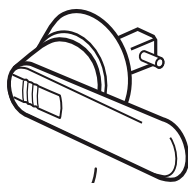

Fig. 1
1. Supply power to the unit by turning the master switch to the ON position; see (fig.1.) The display will switch on a few seconds after voltage has been supplied; check that the operating status is on OFF (OFF BY KEY B on lower side of the display).